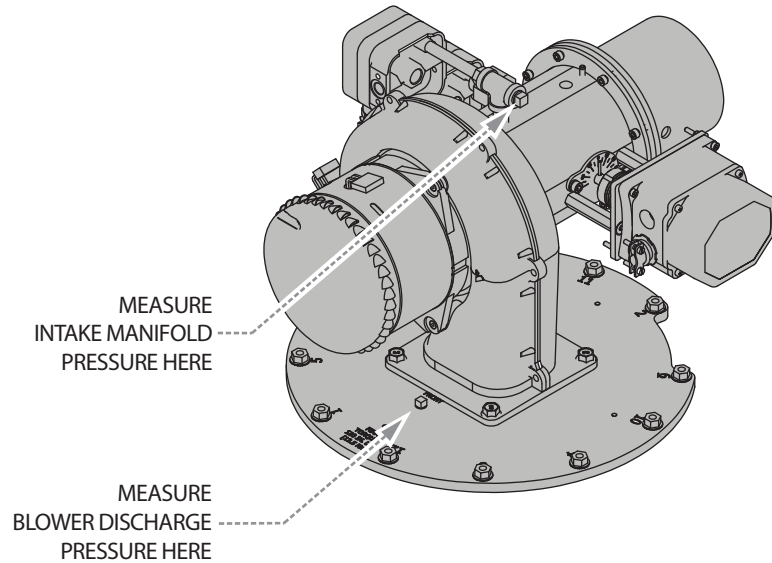

FIGURE 24 - INTAKE MANIFOLD AND BLOWER DISCHARGE PRESSURE MEASUREMENT LOCATIONS
6. Measure Intake Manifold at each step and if necessary, adjust Air Position or Blower Position in accordance with Table 8 to increase the negative pressure to ensure the Air Switch remains satisfied before transitioning to the next point. Intake Manifold is measured on the air valve test port tee located on the inlet (suction) side of the combustion blower, refer to **Figure 24**.